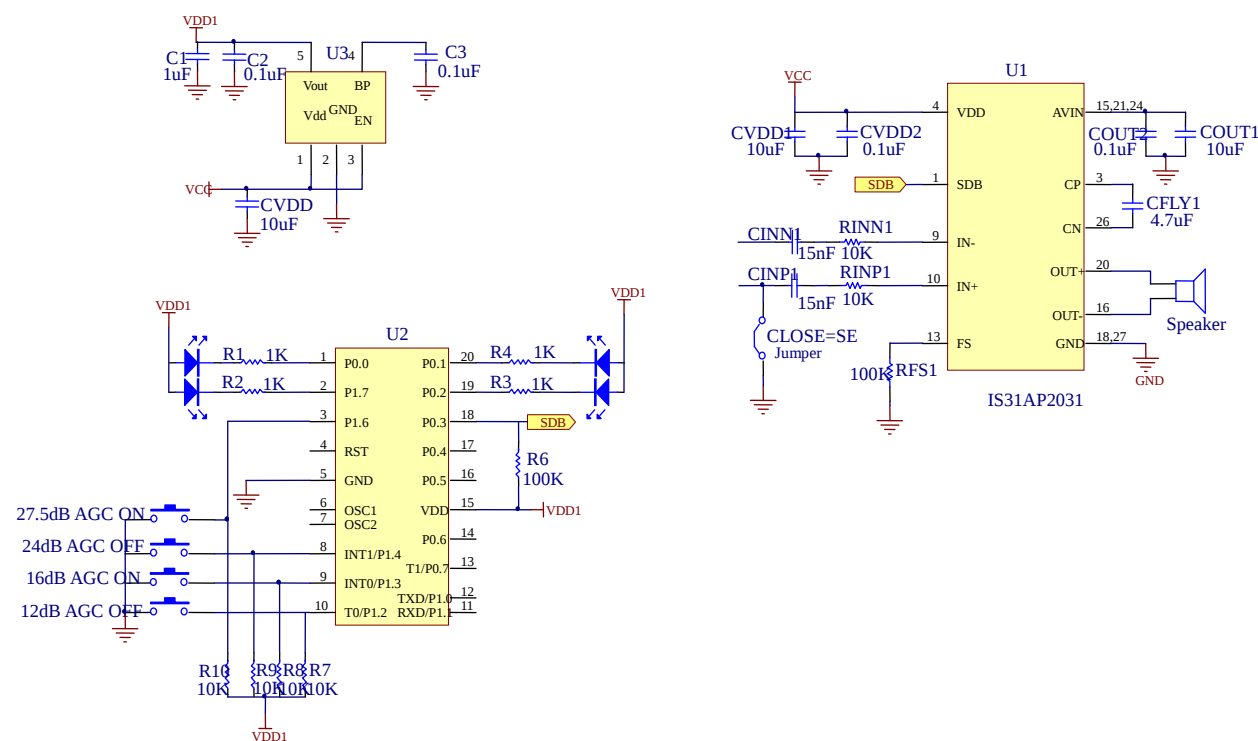

Figure 2: IS31AP2031 Evaluation Board Circuit Schematic
The input resistance (R_{IN1}) and input capacitance (C_{IN1}), as seen in Figure 2's Schematic, constitute a high-pass filter with a specific cut-off frequency, denoted by " f_c ". For modes A and B, the cut-off frequency is determined by solving equation (1).